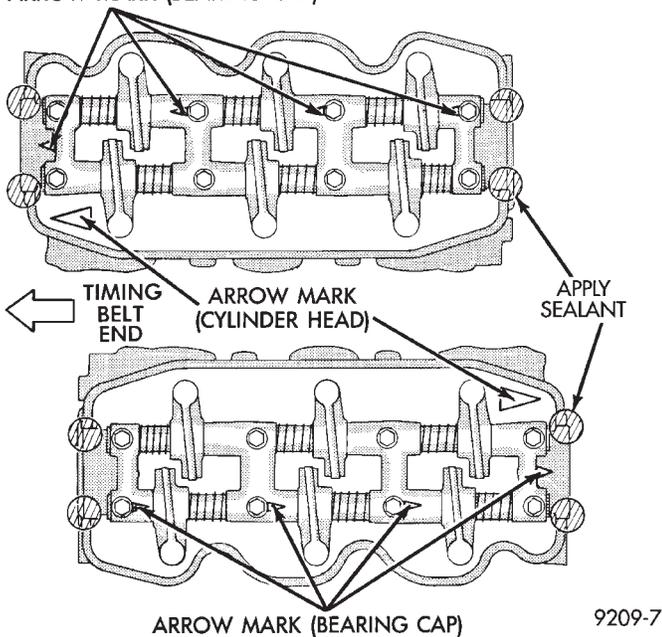

Fig. 8 Camshaft Bearing Caps Position
(1) Align the camshaft bearing caps with arrows (depending on cylinder bank) directed as shown in (Fig. 8) and in numerical order.
Install the rocker arms, bearing caps and springs. **Springs are the same and can be used at all locations** on the rocker arm shafts (Figs. 8 and 10). Insert bolts in number four bearing cap to retain assembly.
(1) Apply Mopar Silicone Rubber Adhesive Sealant at bearing cap ends as shown in (Fig. 8).
(2) Install the rocker arm shaft assembly making sure that the arrow mark on the bearing cap and the arrow mark on the cylinder head are in the same direction. (Fig. 8).